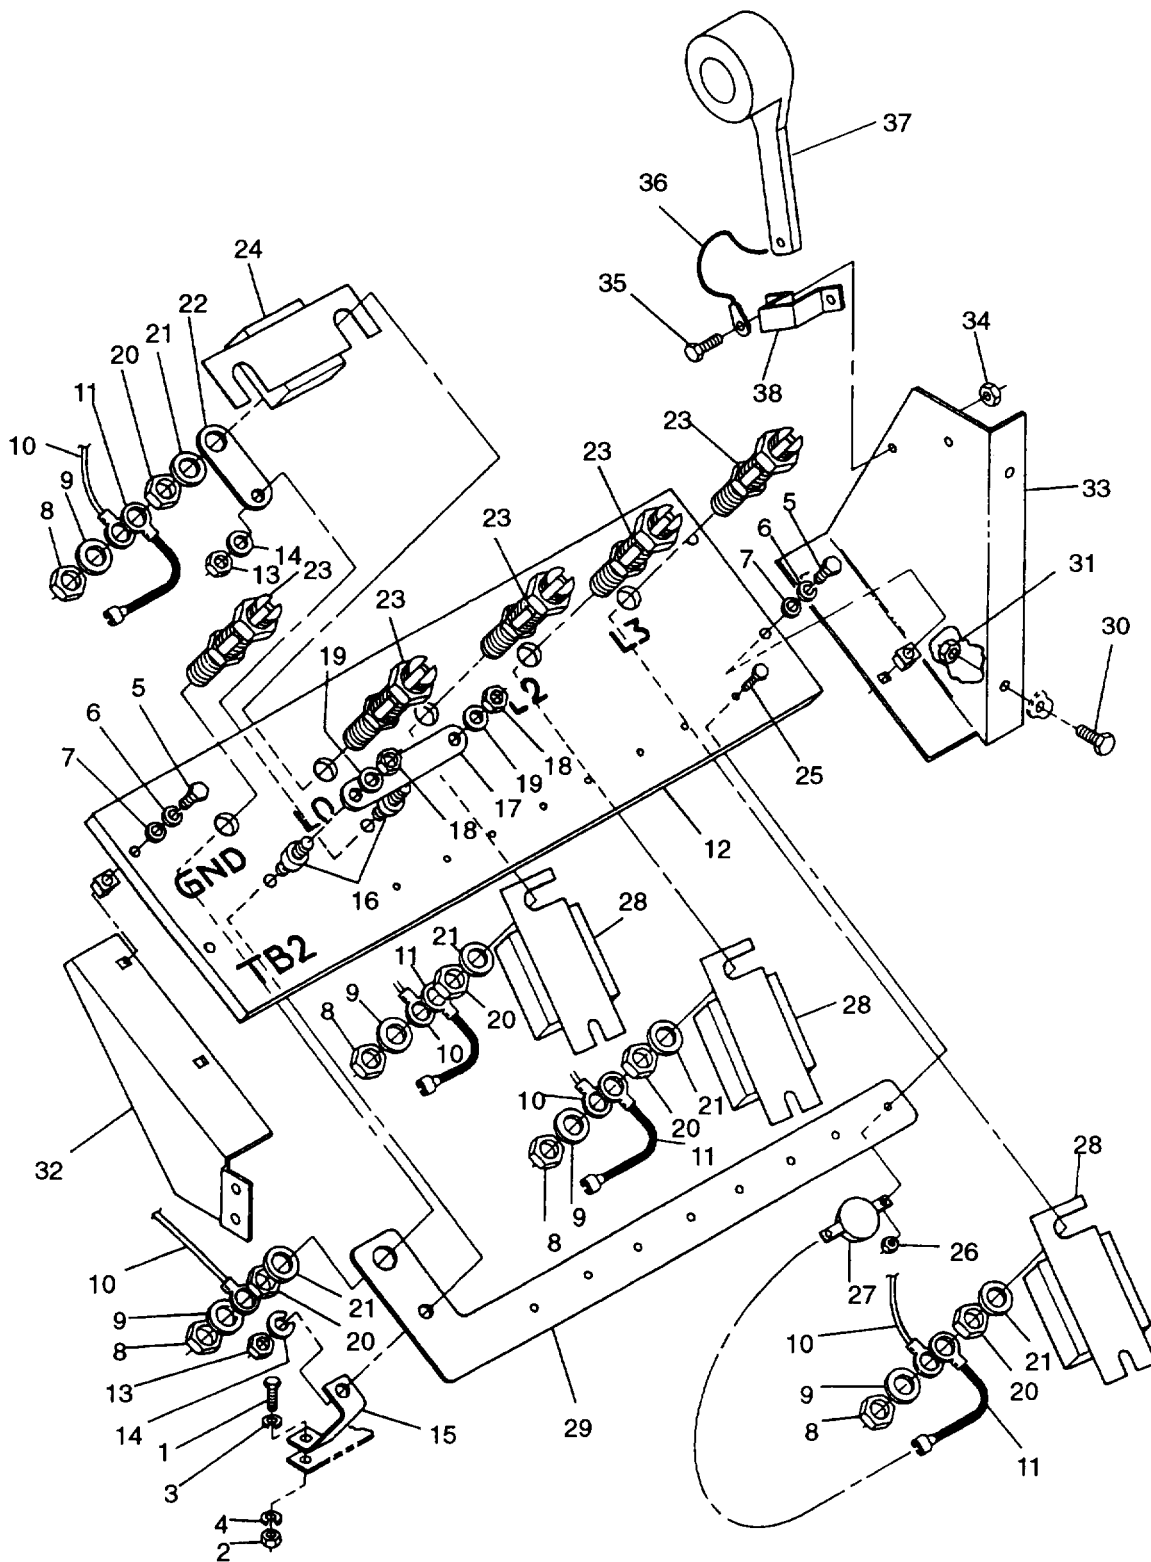

FIGURE 2-30. Load Terminal Board Assembly
- e. Remove bolt (1, FIGURE 2-30), nut (2), flatwasher (3), and lockwasher (4) securing ground strap (15) to skid base.
- f. Remove bolts (5), lockwashers (6), and washers (7) securing terminal board assembly(12) to supports.
- g. Remove nuts (8) and washers (9), tag and disconnect all main power leads (10) and varistor leads (11) from load terminals (23).
- h. Remove terminal board assembly (12) from generator set.
- j. Remove EMI filter (24) positioned between L0 and GND terminals (23).
- k. Remove varistor leads (11) from varistors (27).
- m. Remove EMI filters (28) positioned between load terminals (23) and varistors (27).
- n. Remove nuts (13), washers (14), ground strap (15), studs (16), bus bars (17) and (22), and ground plane bar (29) from terminal board (12).
- o. Remove nuts (18) and washers (19) from studs (16).
- a. Install load output terminal board supports (32 and 33), FIGURE 2-30) in generator set with bolts (30) and nuts (31).
- b. Install ground plane bar (29), bus bars (17) and (22), and ground strap (15) on terminal board (12) with studs (16), washers (14) and (19), and nuts (13) and (18).
- c. Position EMI filters (28) between varistors (27) and L1, L2, and L3 load terminals (23) mounting holes.
- e. Position EMI filter (24) between L0 and GND terminals (23) mounting holes.
- g. Connect leads (11) to varistors (27).
- h. Position load output terminal board assembly in generator set, and connect varistor leads (11) and main power leads (10) to load terminals (23) with washers (9) and nuts (8). Remove tags.
- i. Secure terminal board assembly to supports with washers (7), lockwashers (6), and bolts (5).
- j. Apply a thin coat of antiseize compound (Item 6, Appendix C) to skid at ground strap (15) attaching point.
- k. Install bolt (1), flatwasher (3), lockwasher (4), and nut (2) securing ground strap (15) to skid base.
- e. Remove nuts (20, FIGURE 2-30), copper washers (21), and load terminals (23) from terminal board assembly (12).
- a. Install load output terminals (23, FIGURE 2-30) on load output terminal board assembly (12) with copper washers (21) and nuts (20).
- d. Tag and disconnect varistor leads, (11, FIGURE 2-30) from varistors (27).
- e. Remove nuts (26), bolts (25), and varistors (27) from load terminal board assembly (12).
- a. Install varistors (27, FIGURE 2-30), on load output terminal board assembly (12) with bolts (25) and nuts (26).
- b. Connect varistor leads (11) to varistors (27) and remove tags.